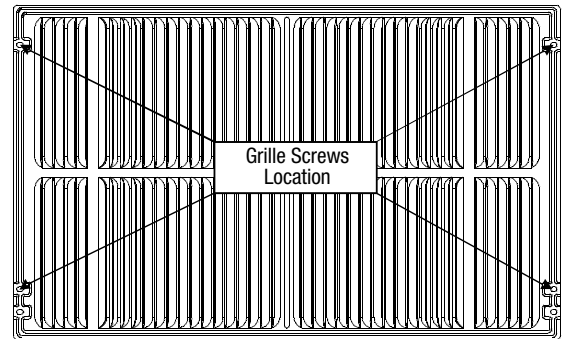
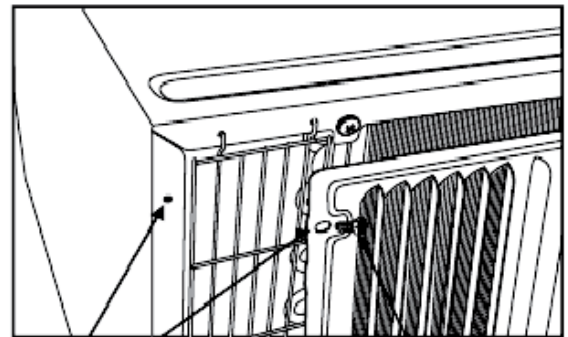

FIG. 2
FIG. 3
24. If the unit has not been pre-drilled (some models), carefully drill 4 - 1/8" holes through the grille and into the side flange of the unit approximately 1 1/2" to 2" from the top and bottom as in **FIG. 2** and **FIG. 3**. (Be careful not to drill into copper heat exchange coils).